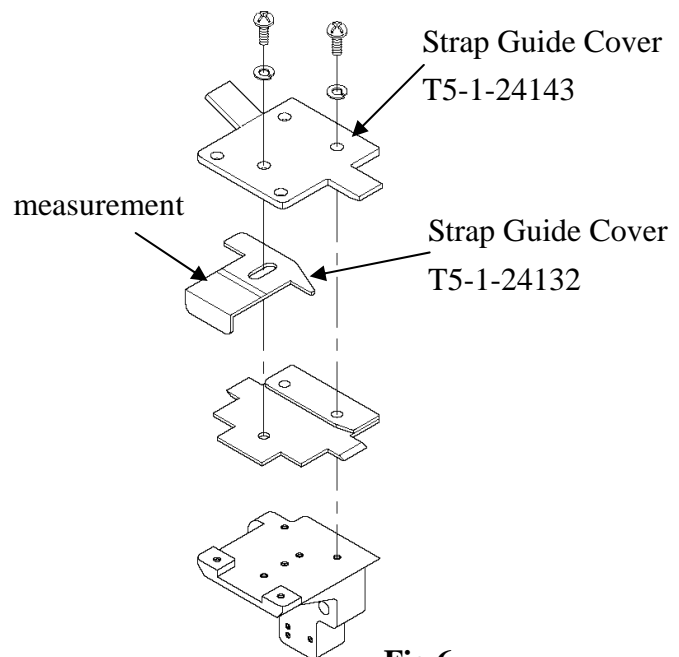

Fig.6.
- Loosen the 5 screws outside the Strap Guide B (T5-1-24132) and adjust its position according to the scale indicated. (refer to fig. 6)